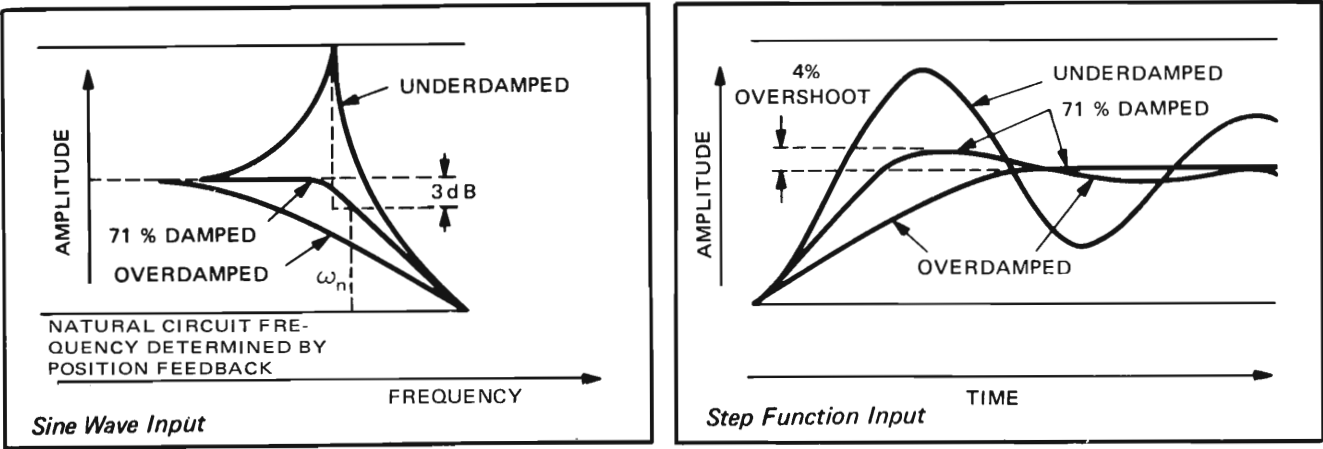

Figure 4-5. Galvanometer Damping
tional to galvanometer velocity and (2) opposite to the direction of pen motor velocity. Figure 4-5 shows the effects of damping on frequency response and transient response, where underdamping produces peaked and oscillatory waveforms, and overdamping diminishes response. Optimum damping leaves about 71% of the original signal strength, so that the frequency response is about 3 dB down at the galvanometer's natural frequency and the response to a square wave (step function) input shows about 4% overshoot.